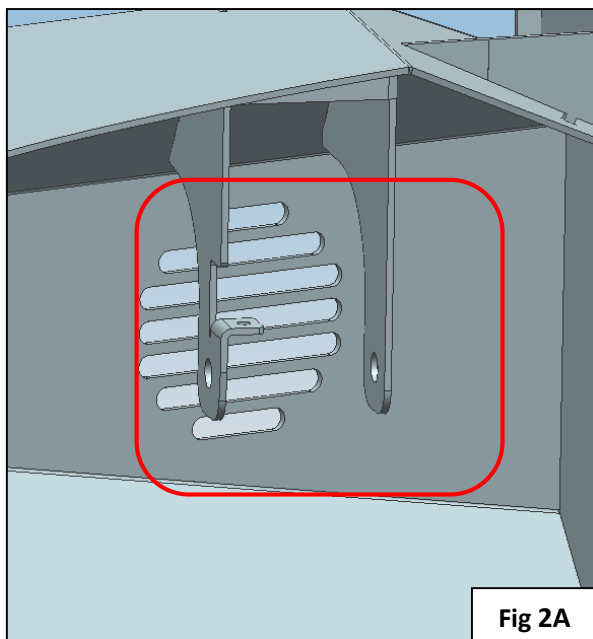

Fig 2A
1. Remove the fog light from the vehicle. Use the OEM screws and nut plates to fasten the fog light to the bumper (**Fig 2A & 2B**).